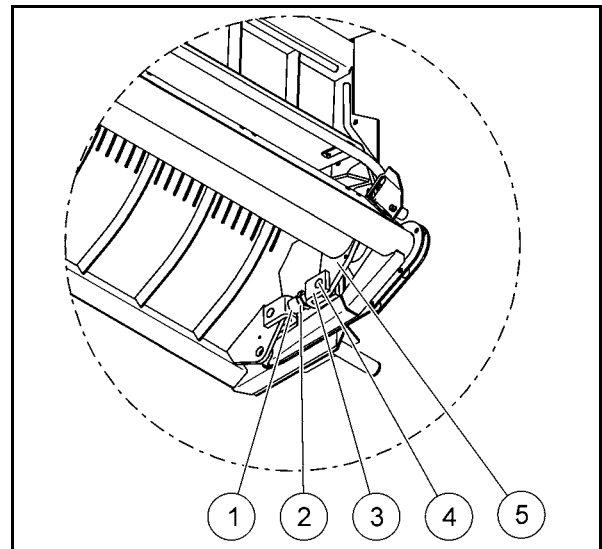

Fig. 92
- 5.1 Unscrew the counter nut (Fig. 92/2).
- 5.2 Remove the bolt (4) to loosen the upper link fork (Fig. 92/3) from the receiver pipe (5).